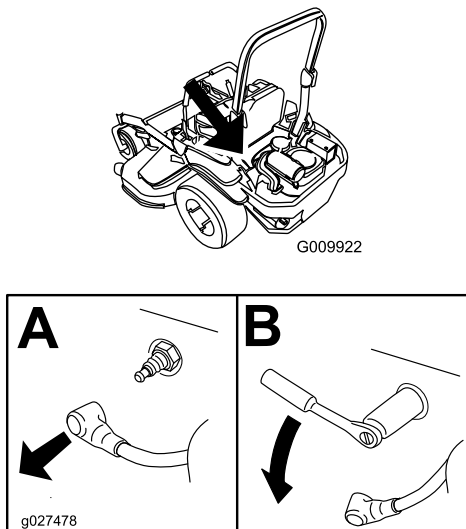

Figure 58
4. Locate and remove the spark plug(s) as shown in Figure 58.